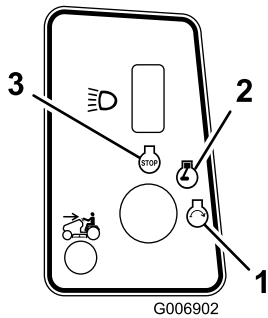

Figure 11
4. Turn the ignition key clockwise and hold it in the Start position (Figure 11). When the engine starts, release the key.
- Turn the ignition key to Off, wait for all moving parts to stop, and remove the key before leaving the operating position. (Figure 11).